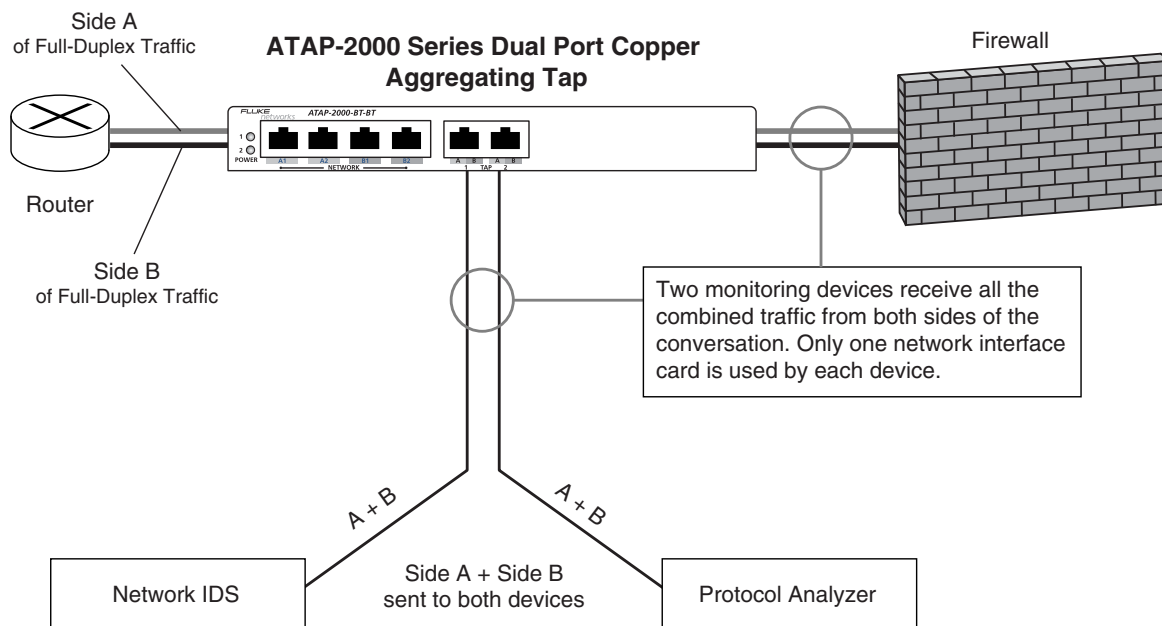

Figure 17. Typical ATAP-2000 series Link Aggregating In-Line Tap application (ATAP-2000-BT-BT dual-port dual-1000BASE-T tap unit shown here).
**Figure 17** depicts a typical ATAP-2000 Link Aggregating In-Line Tap scenario.